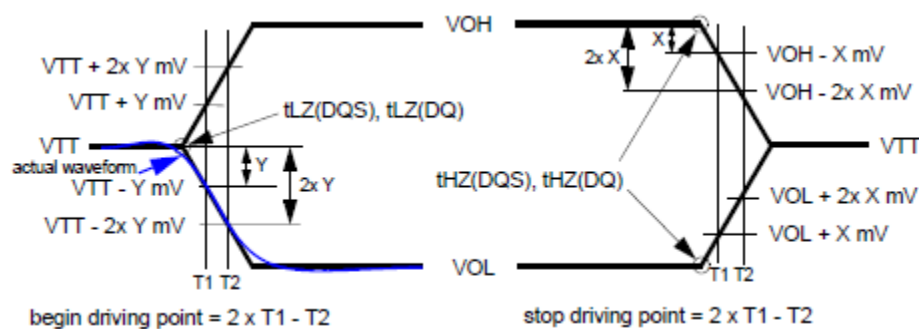

Figure 11.1 — HSUL_12 Driver Output Reference Load for Timing and Slew Rate
NOTE 12 For low-to-high and high-to-low transitions, the timing reference will be at the point when the signal crosses VTT. tHZ and tLZ transitions occur in the same access time (with respect to clock) as valid data transitions. These parameters are not referenced to a specific voltage level but to the time when the device output is no longer driving (for tRPST, tHZ(DQS) and tHZ(DQ)), or begins driving (for tRPRE, tLZ(DQS), tLZ(DQ)). Figure 11.1 shows a method to calculate the point when device is no longer driving tHZ(DQS) and tHZ(DQ), or begins driving tLZ(DQS), tLZ(DQ) by measuring the signal at two different voltages. The actual voltage measurement points are not critical as long as the calculation is consistent.